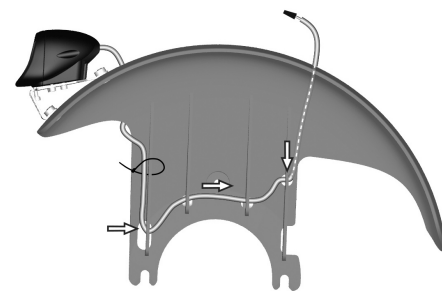

Figure 436. Pull the cable out of the slots and fasten it with a cable tie, then position the end of the lights cable up the hole through the fender.
2. Assemble the cable on the inside of the front fender running it through the slots and using a cable tie, then position the end of the lights cable up the hole through the fender. See fig.436.